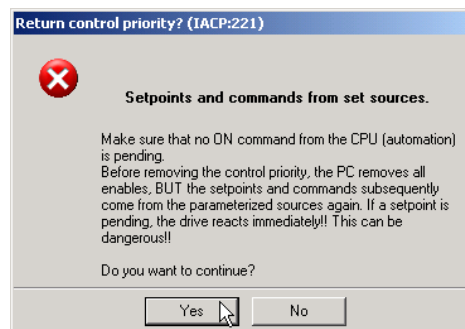

Fig. 4-12 Return control priority
13. Confirm the query **Return control priority?** with **Yes** (see Fig. 4-12).